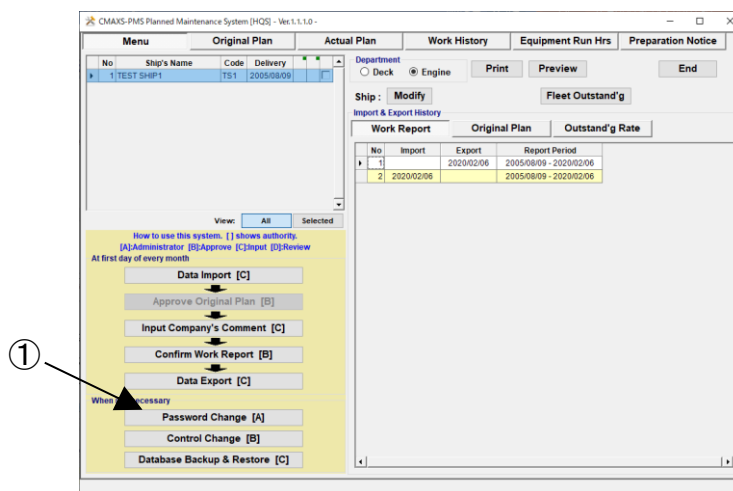

Fig12-1 Menu screen
(1) Select [Password Change] button on the "PMS Initial Screen" (Fig.12-1).